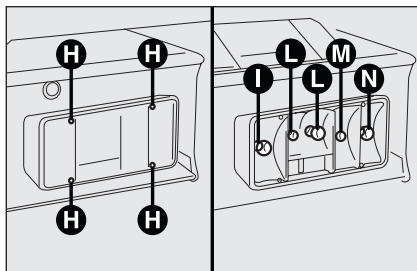

fig. 30a
- ☐ unscrew the four bolts **H**-fig. 30a and replace the bulbs: